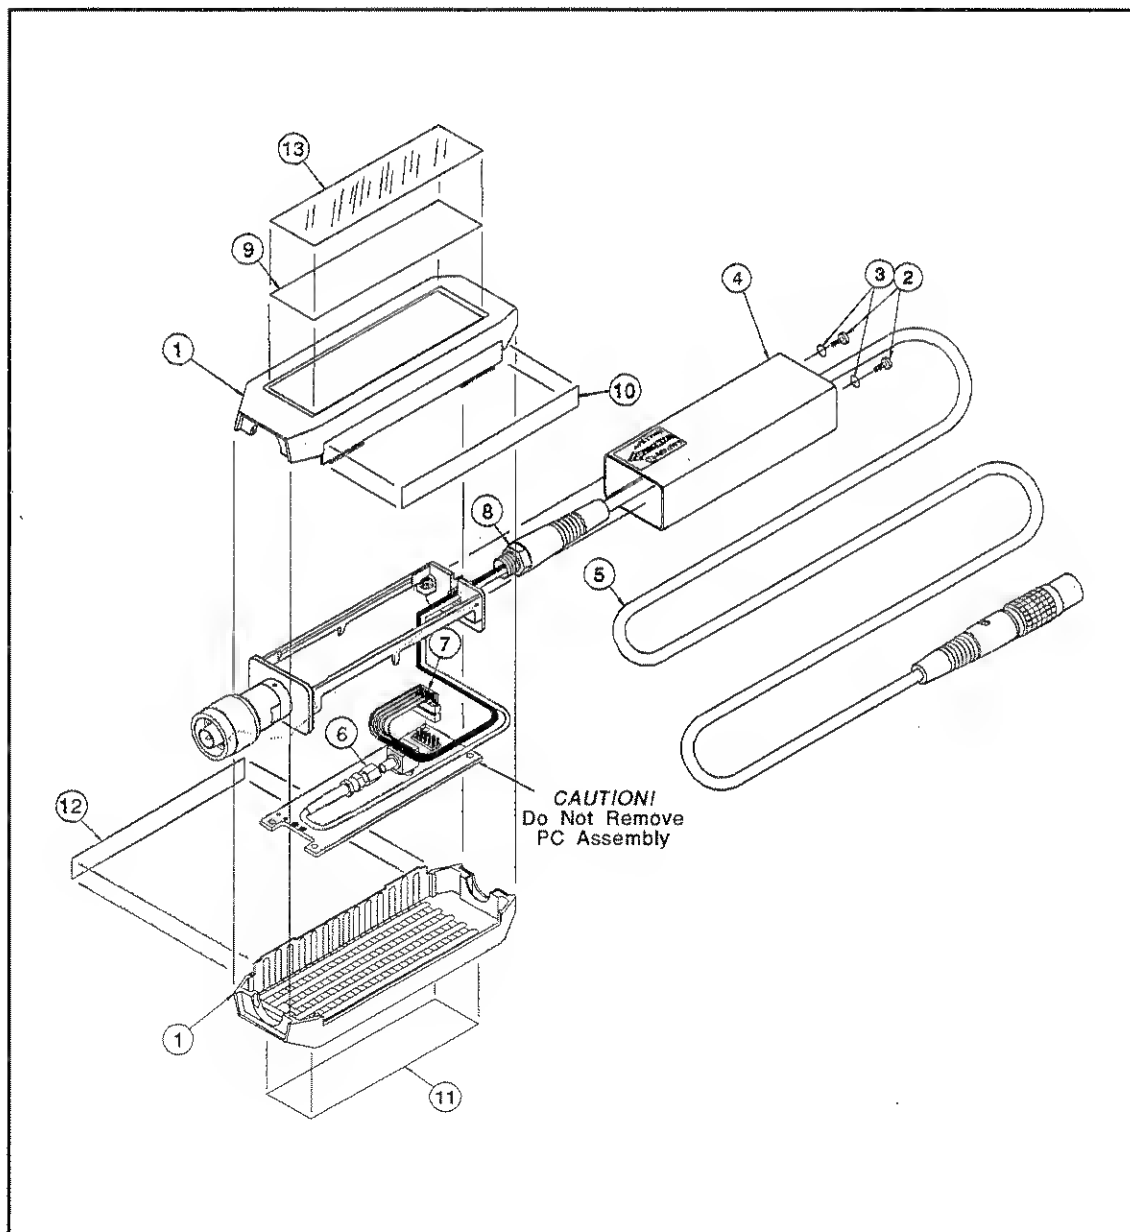

Figure 5-3. Cable Replacement
4. Refer to Figure 5-3. Remove two screws ② from the sensor shield ④.
5. Slide the sensor shield ④ over the sensor cable and expose the sensor interior.
6. With your 15/64 in. wrench unscrew the SMC nut ⑥ from the PC board.
7. With your fingers pull the connector ⑦ free from the PC board.
8. With your 7/16 in. wrench unscrew the cable nut ⑧.
9. Pull the sensor shield ④ free of the cable.
10. Slide the sensor shield ④ over the new cable.
11. Tighten cable nut ⑧ to 25 in·lbs (282.5 N·cm).
12. Place a drop of "Blue Loctite™" (not shown) on the exposed threads of ⑧.
13. Place connector ⑦ on the PC board.
14. Tighten nut ⑥ to 4 in·lbs (45 N·cm).